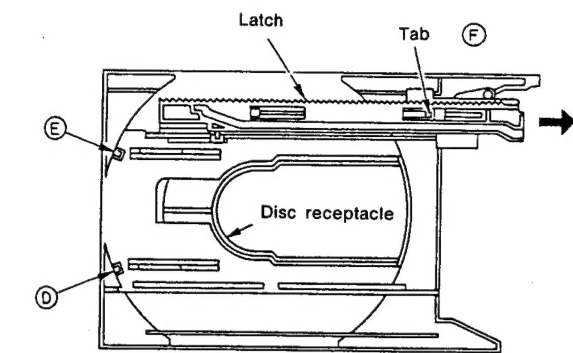

Fig. 4
## (3) Replacement of the disc holder (Fig. 4)
With the tray removed, remove tabs ① and ② of the disc receptacle of Fig. 4, then lift up and off.
## (4) Replacement of the latches (Fig. 4)
Set the latches into the condition of Fig. 4, lift the latch tab (F) up about 1 mm with a flat-bladed screwdriver and remove the rack in the direction of the arrow.